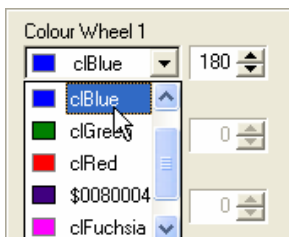

Figure 37: Using the Colour Wheel Helper Control
6. On selection of a colour from the helper control, the real value will be displayed in the control to the right. In Figure 37 above, blue has been selected and the corresponding DMX value 180 is displayed in the control to the right.